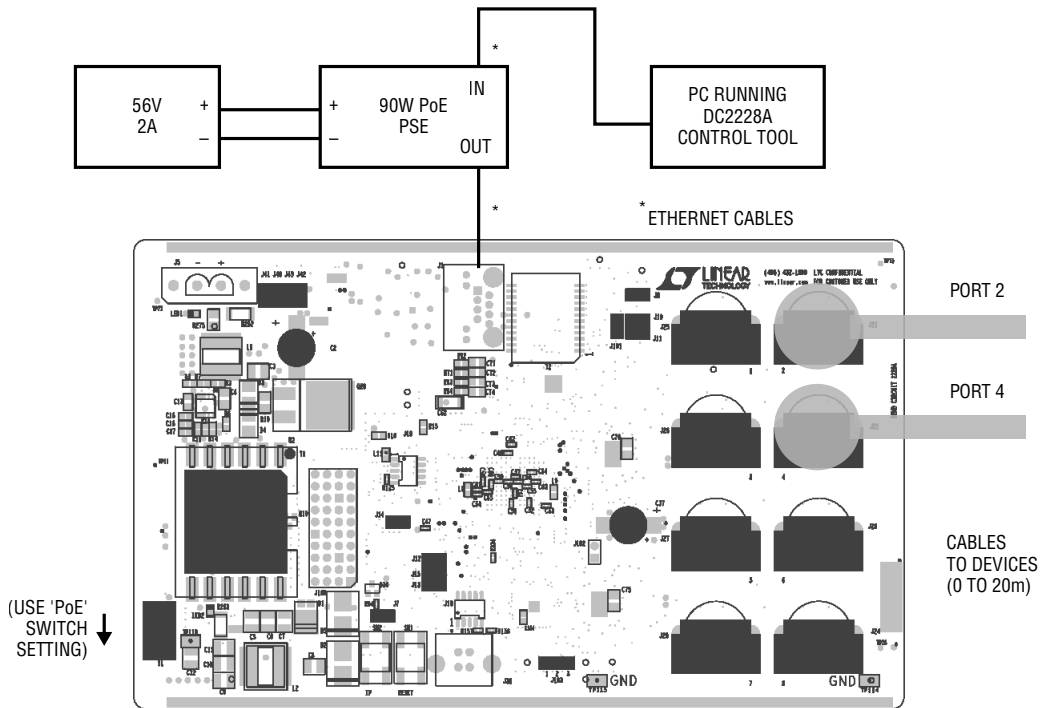

Figure 5. Alternate Set-Up Using PoE and Direct Ethernet Connection
1. Connect Ethernet cables according to Figure 2 (if using a power supply) or Figure 5 (if using PoE).